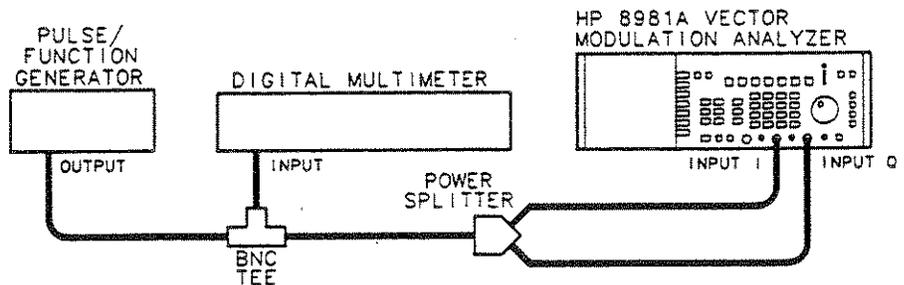

Figure 4-2.DC Vector/Differential Accuracy Test Setup
1. Connect the equipment as shown in Figure 4-2: